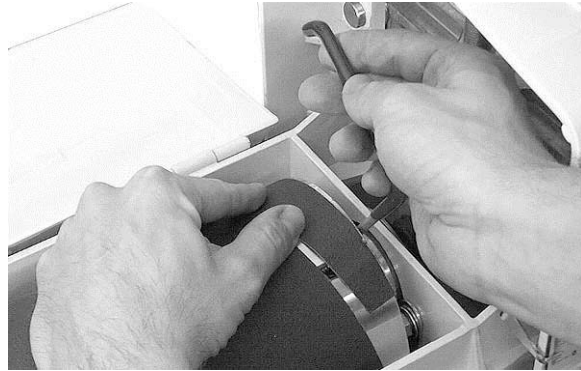
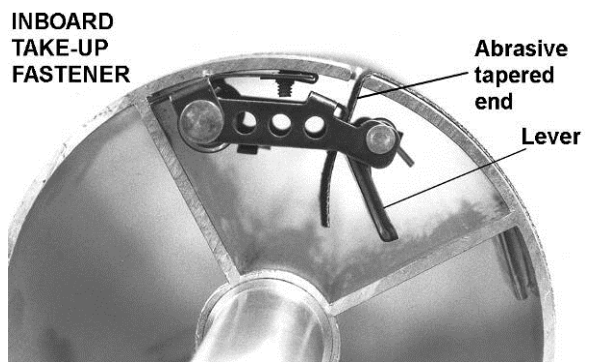

Figure 12
Figure 14
8. You can use your fingers to work the infeed take-up fastener, but it will be more convenient to use the TUFTool supplied with your sander. Hold the TUFTool with the red end pointing away from you (Figure 12) and insert its hook into the outside hole of the fastener lever (see Figure 14).
12. Hold the abrasive in place with your left hand, lift up the TUFTool and turn it clockwise while maintaining upward pressure. Slowly move the TUFTool away from you slightly, then down, while easing it out of the hole. This releases the lever in its proper position (Figure 14).